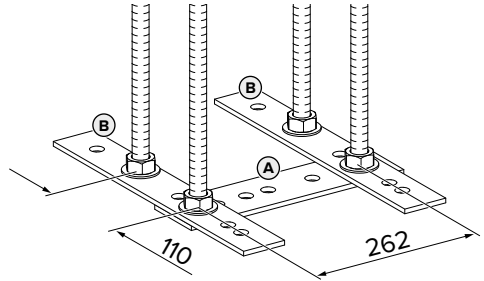
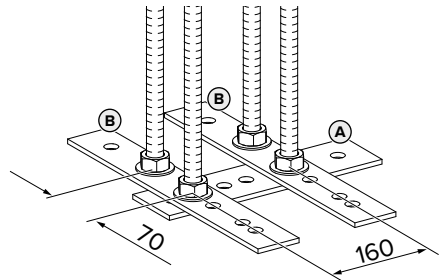

Fig. 1: Dimensions [mm]
Fig. 2: Dimensions [mm]
- ▶ Insert the threaded rods into the flat steel bars taking account of the dimensions in the Fig. 1 and Fig. 2. Make sure that the flat steel bar (A) and the flat steel bars (B) are arranged at right angles (90°).